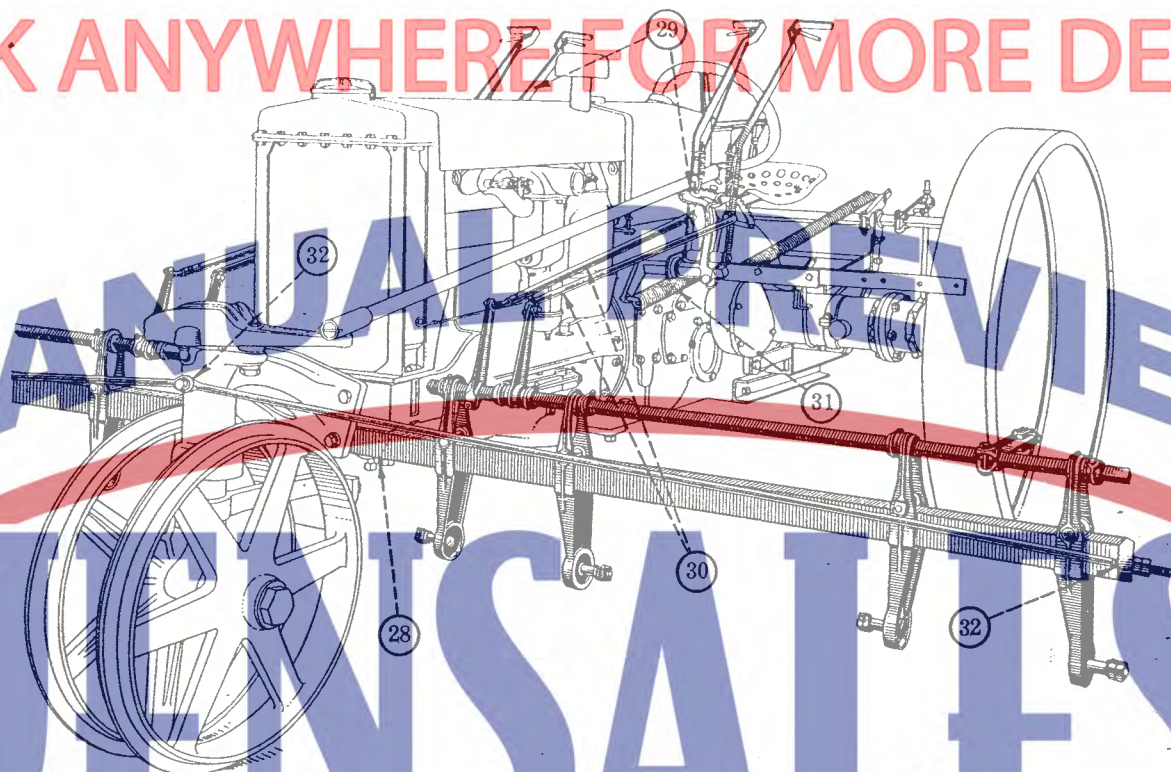

Fig. 12. Attaching Front Beam Cross Bar for Four Row Cultivator
28. Fig. 12. Fasten the long square pipe bar assembly in place as shown.
29. Fig. 12. Bolt lever assemblies on as shown.
30. Fig. 12. Attach connecting links between levers and raising arms on front beam cross bar. The inner levers control the outer gangs and the outer levers control the inner gangs.
31. Fig. 12. An additional assisting spring is provided for the four row attachment. This spring attaches to arm on center shaft, as shown with adjusting eyebolt at rear through eyebolt bracket which bolts on upper stud through rear axle housing.
32. Fig. 12. Attach the front truss rods from front axle center bracket to the outer end of front cross bar. The $\frac{5}{8}$ "x2" cap screw for attaching truss rods to center bracket is packed with the front beam bundle.
33. Fig. 12. Attach beams and shields in the same way as for the two row cultivator.